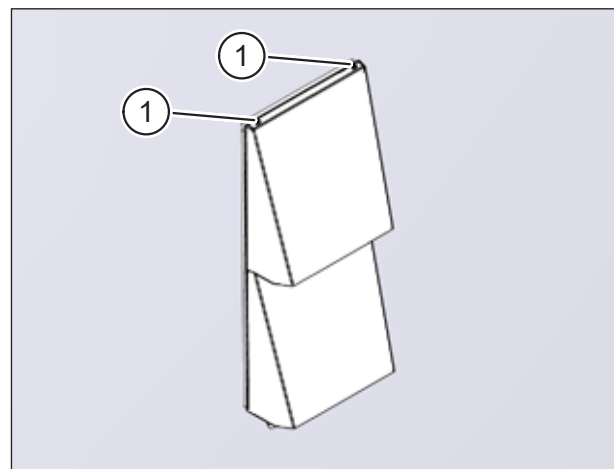

Fig. 19: Outer wall terminal installed
- ▶ Use the two cross-head screws to fix the cover (item 1 in Fig. 19).